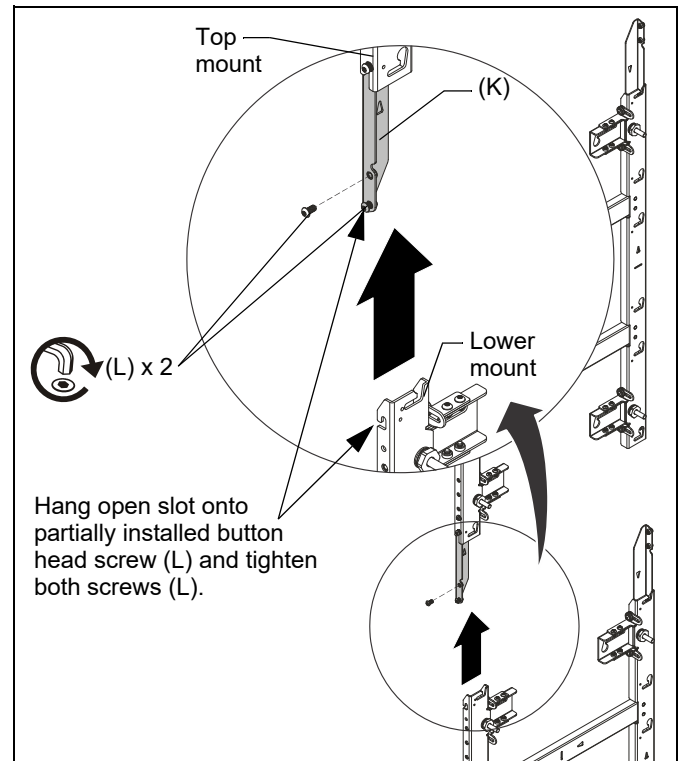

Figure 10
NOTE: When connecting a mount to the bottom of an installed mount, the lower mount may be hung by its open slot on the partially installed button head screw (L) before tightening the connection. (See Figure 10)